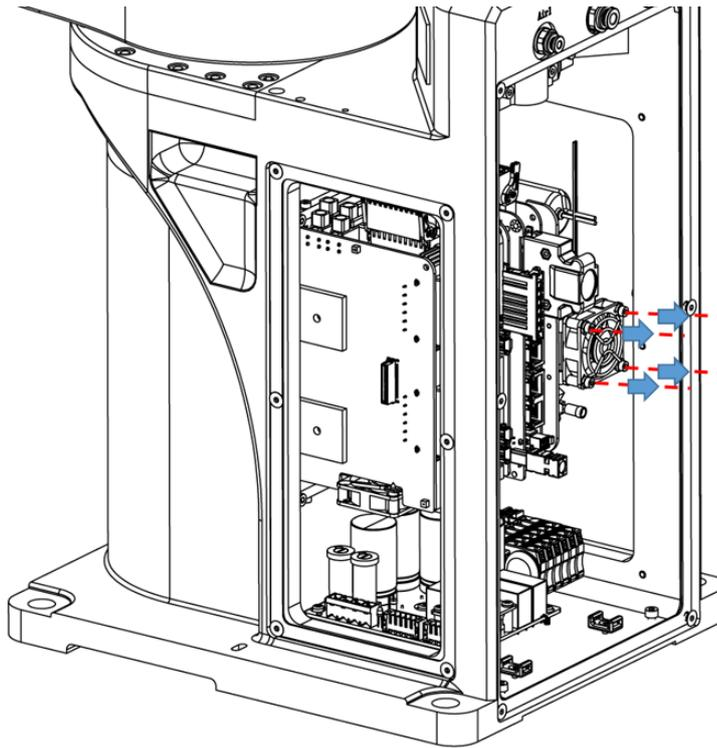

Figure 5-23 Remove the power module cooling fan
Step 4 Use an Allen wrench to remove the fastening screws from the power module cooling fan, as shown in Figure 5-23.